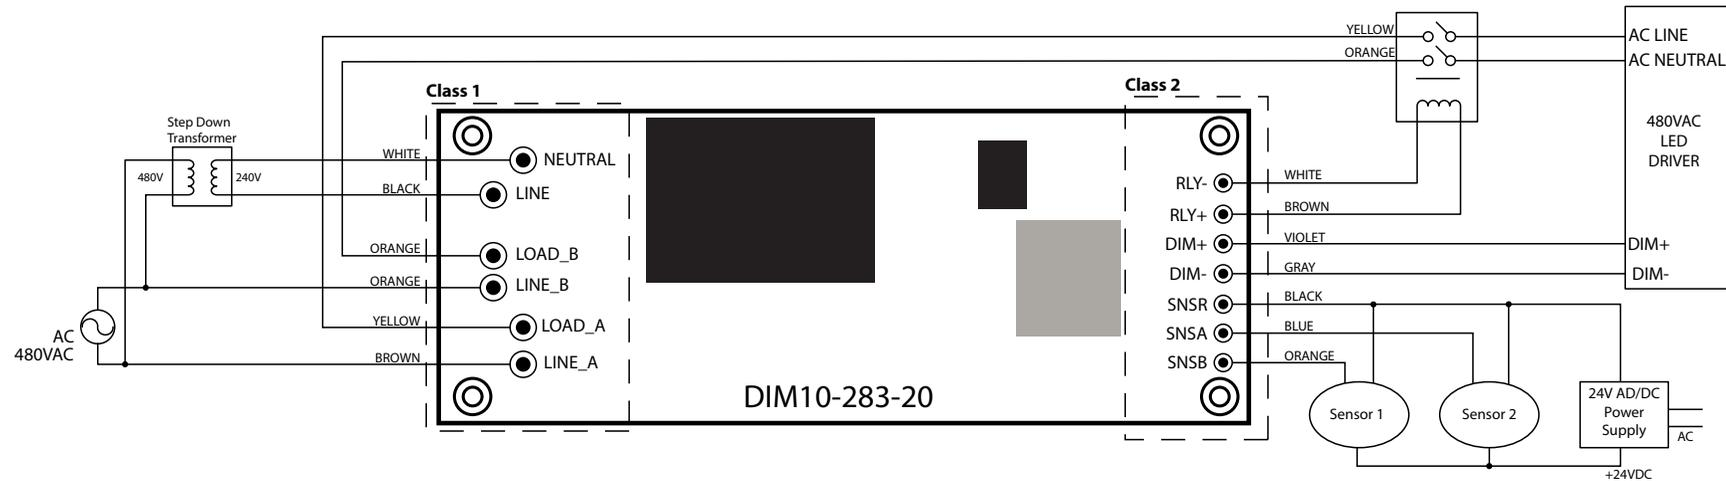

Figure 3 - 480VAC Wiring Diagram
**FOR 480VAC INSTALLATION (FIG. 3)**